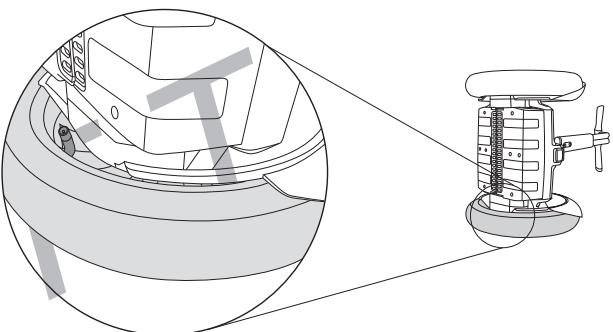

Figure 67: i2 SE Valve Stem Location
3. Rotate the Powerbase until the valve stem on the inside of the Wheel becomes visible (see **Figure 67**).